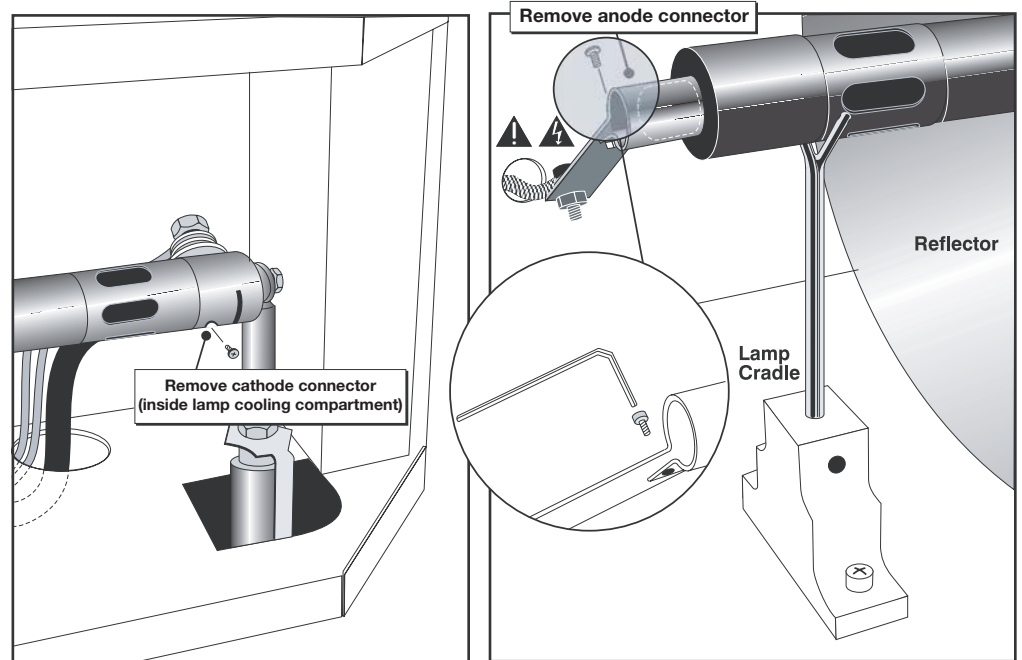

Figure 5-1. Disconnecting the Old Lamp
- Using a hex wrench of the appropriate size, loosen the set screws from the negative/cathode (rear, 7/64") and positive/anode (front, 3/16") lamp connectors; see Figure 5-1. **Apply minimal torque and DO NOT stress the quartz tube.**